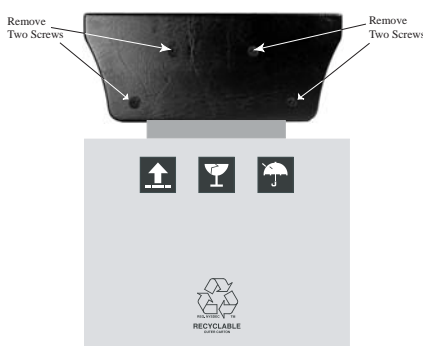

Figure 4
- Using the supplied Allen Wrench, remove four screws from the XLS340 Bottom. Refer to figure 4.